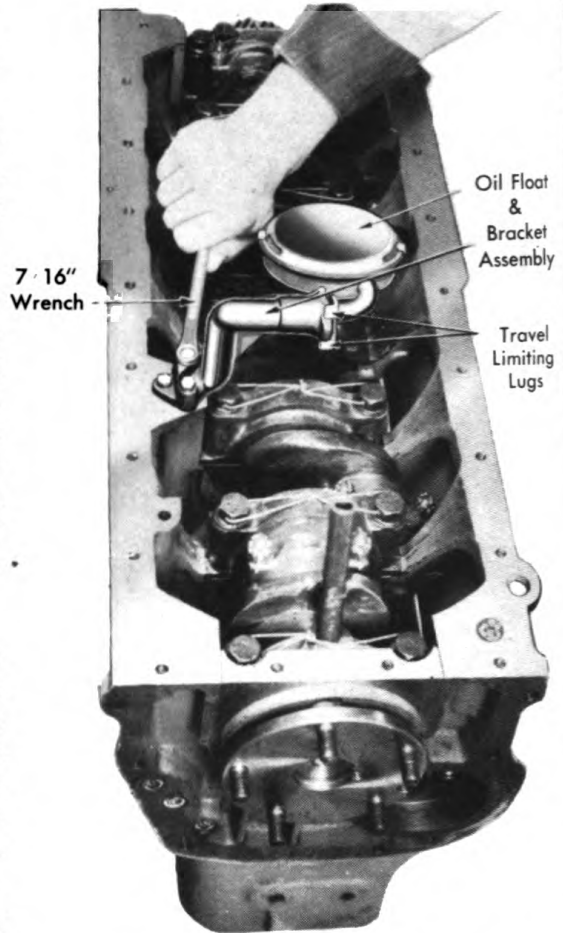

Figure 130. Removing Oil Float Bracket.
26. Remove the Float-O bracket, as shown in Figure 130. The Float-O is held in place with three capscrews.